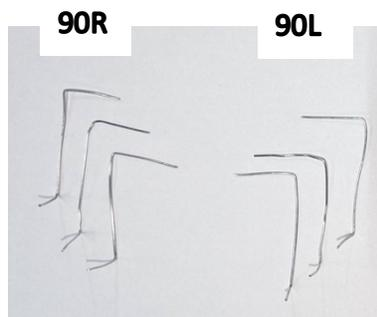

Figure 2: 85 mm wires bent into non-planar  $90^\circ$  angles, with 22 mm ends
**Note 2:** In this orientation, the wires with right angles (see figure 2) end up making a large equilateral triangle where each side has two wire segments that are “horizontal” with straws pointing outward. The wires with  $\sim 60^\circ$  angles connect the “vertical” straws to the “horizontal” straws in an “up and down” pattern.
Start by bending a  $90^\circ$  angle in the 85 mm wires, with 22mm on side of the angle. On the other end of the same wire, bend another  $90^\circ$  angle *which is in a different plane*. Do this two more times for a total 3 wires. Repeat the process for the other three 85 mm wires, but this time bend the  $90^\circ$  angle *in the opposite direction (e.g. down instead of up)*. You should end up with 6 zigzag wires, which we call 90R and 90L as shown in figure 2.